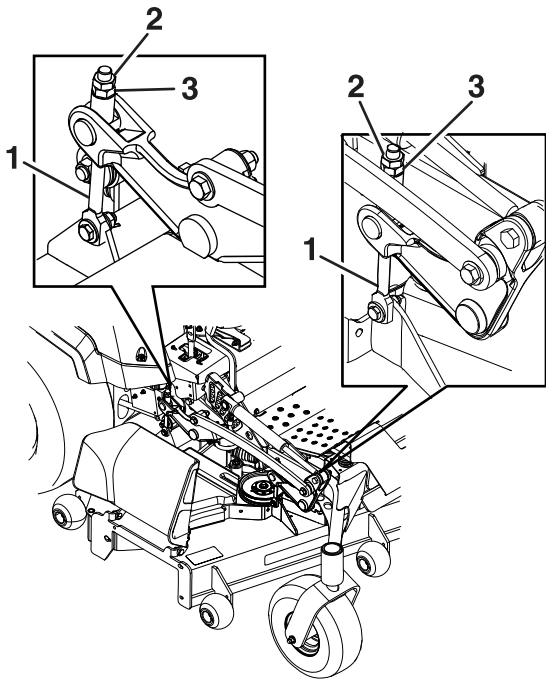

Figure 77
- Fine-tune the adjustment nut on the front deck lift assembly by turning it (Figure 77).